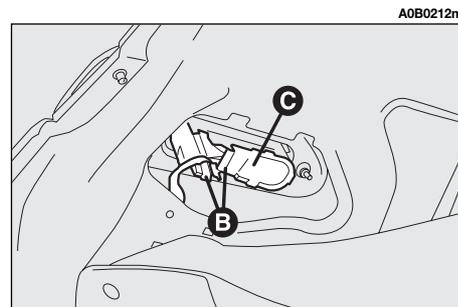

fig. 42
– Lower the boot lid trim in the corresponding area and remove the bulb holder unit (**C-fig. 42**) releasing the retainer tab (**B-fig. 42**).
– Refit the bulb holder unit fastening it correctly in place with the retainer tabs (**B-fig. 42**).